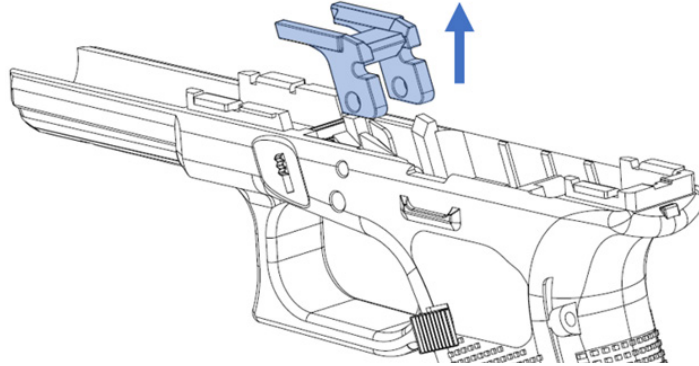

Figure 46: Locking Block removal direction.
a) Remove the Locking Block from the frame (Figure 46).